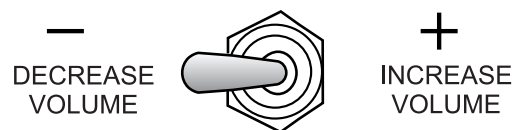

Figure 28. Volume Control Switch
2. Holding the **volume control switch** (Figure 28) to the right will increase pumping volume to approximately 10 strokes per minute. Holding the volume control switch to the left will decrease pumping volume.
- Rotate the Volume Control Knob (Figure 28) to the right to increase the volume to 25–30 strokes per minute. Place pump control switch in the center “OFF” position. Slowly discharge the concrete from the ready-mix truck into the hopper and completely fill it.